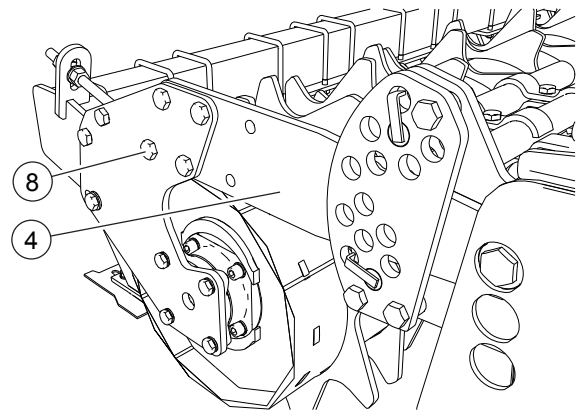

FIG. 11
- Fit the roller unit. Loosen the screws (8, "Fig. 11") of the roller supports to the arm (4).